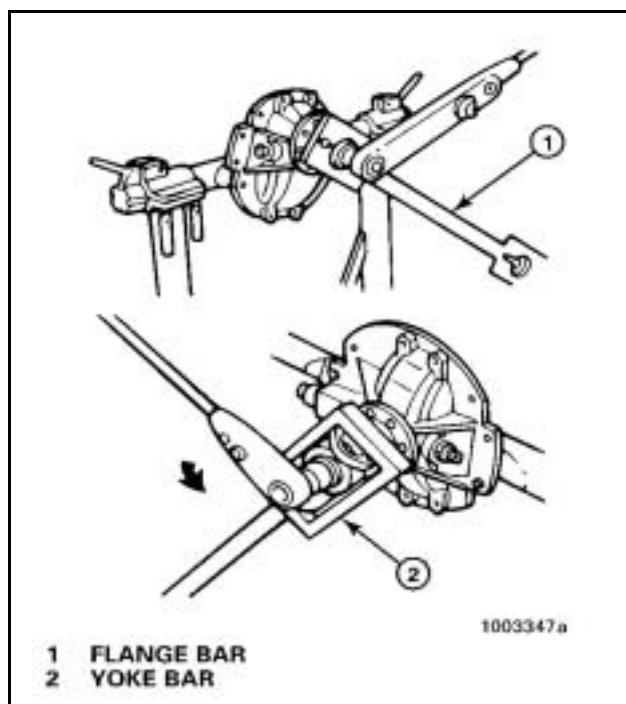

Figure 22
1. Fasten a flange bar to the input yoke or flange. When the nut is removed, the bar will hold the drive pinion in position. **Figure 22.**
2. Remove the nut and washer* from the drive pinion. **Figure 22.**